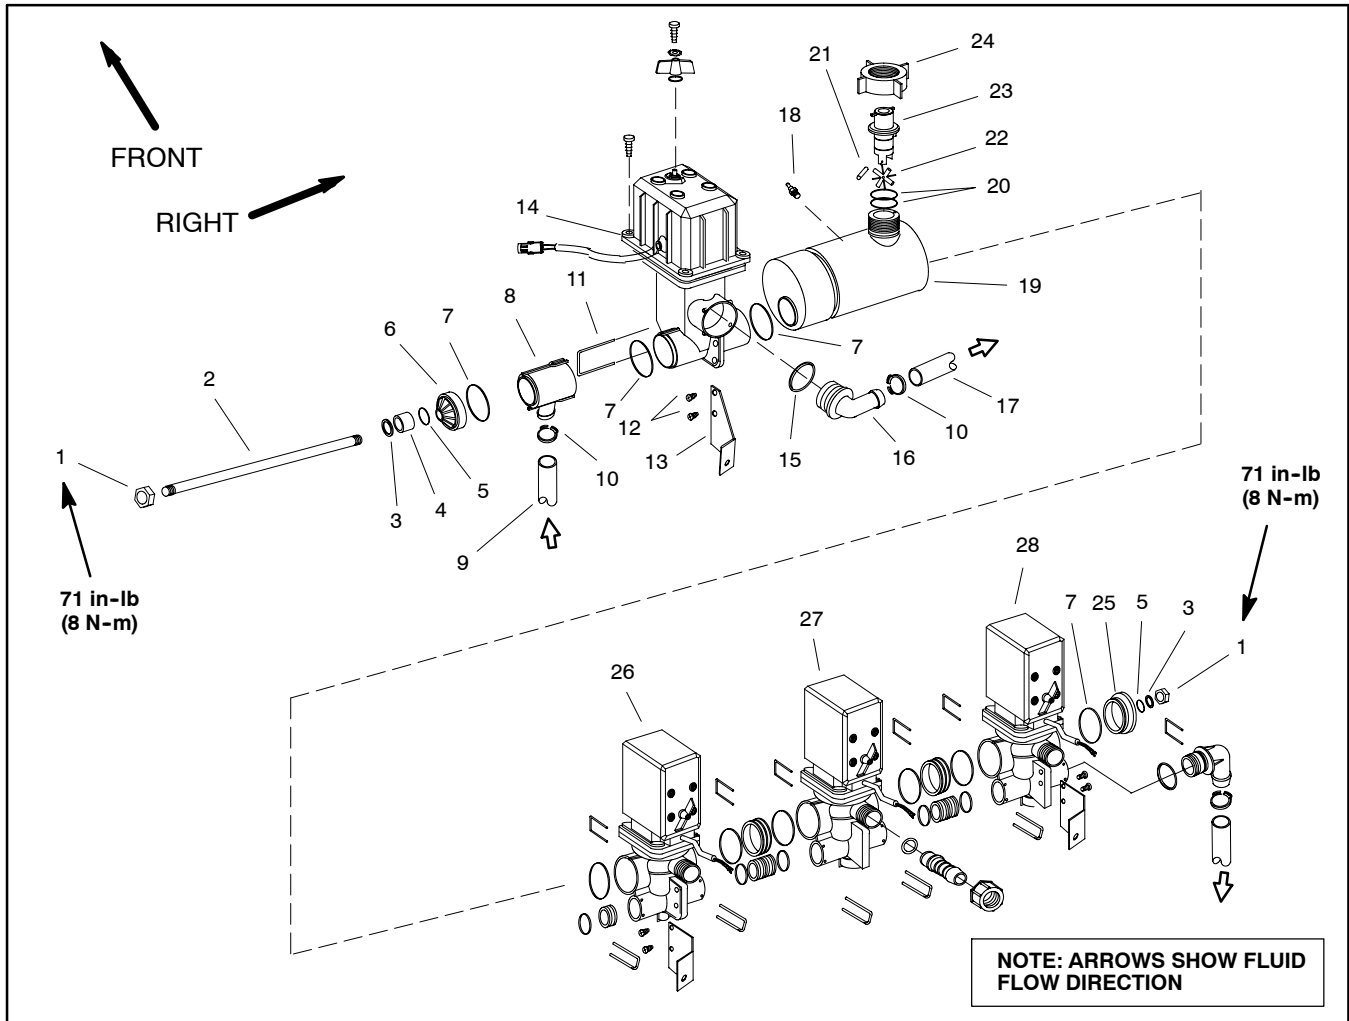

Figure 24
Removal and Inspection (Fig. 24)
7. If necessary, remove flowmeter housing using Figures 24 and 26 as guides (also see Spray Control) in this section). Discard all removed o-rings and gaskets.
Assembly (Fig. 24)
1. Reassemble flowmeter using Figures 24 and 26 as guides. Replace all removed o-rings and gaskets.